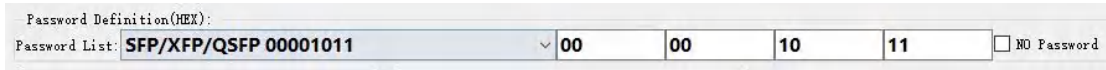

Figure 29
3.1.1 Select the configuration file “SFP/XFP/QSFP 00001011” corresponding to the 10G XFP password of 00001011 (Figure 29)
3.2.1 Select the configuration file “SFP/XFP/QSFP 00001011” corresponding to the 10G XFP code of “00001011” (Figure 29)